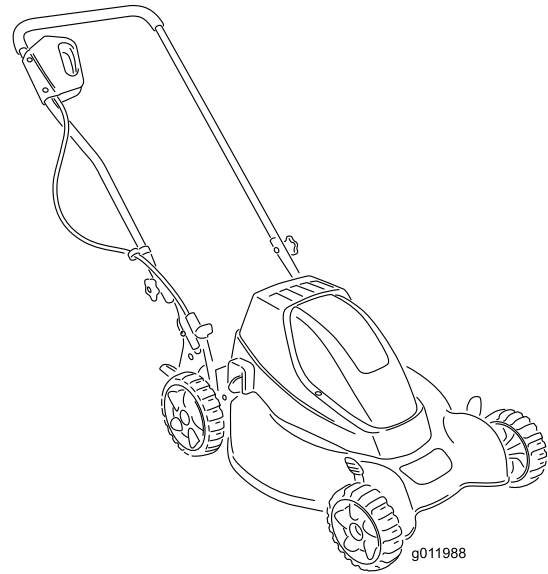

Figure 2
1. Handle knob (2)
2. Move the handle to the operating position (Figure 2).